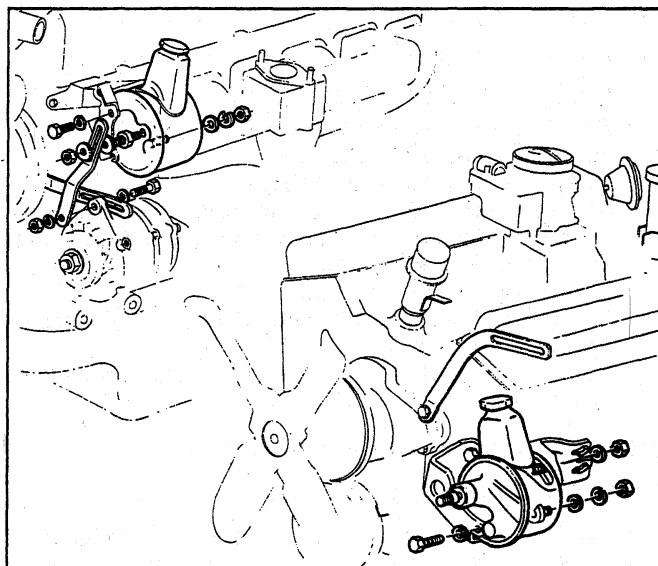

Fig. 67—Power Steering Pump Mounting
Removal (Fig. 67)
2. Position pump assembly on vehicle (Fig. 67) and install attaching parts loosely.